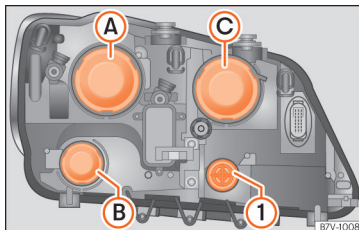

Fig. 62 In the engine compartment: coatings on the left headlight.
- Rotate the bulb holder » Fig. 62 ① all the way to the left and pull it out backwards together with the bulb.